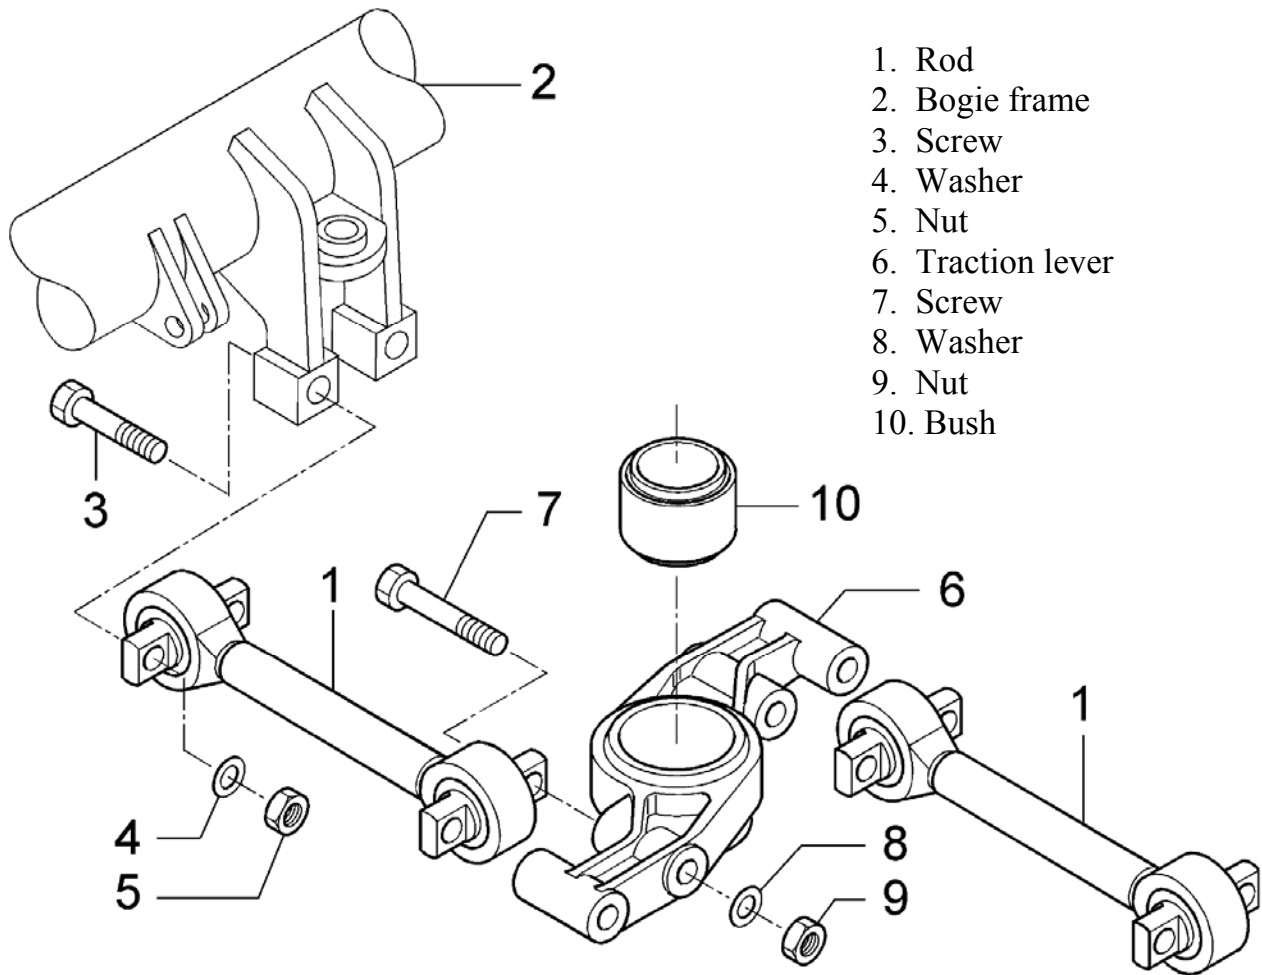

FIG. 4.31 DISMOUNTING THE TRACTION CENTRE
In order to dismount the traction centre (FIG. 4.31), disconnect the rods (1) from the bogie frame (2), extracting the screws (3), the washers (4) and the nuts (5). Then separate the rods (1) from the traction lever (6) extracting the screws (7), the washers (8) and the nuts (9). Then extract the bush (10) from the traction lever (6) using a press.